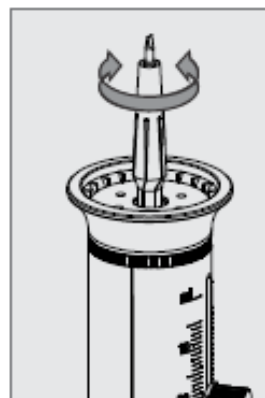

Fig. 12
2. Insert the hex tool on hex nut as shown in Fig. 12